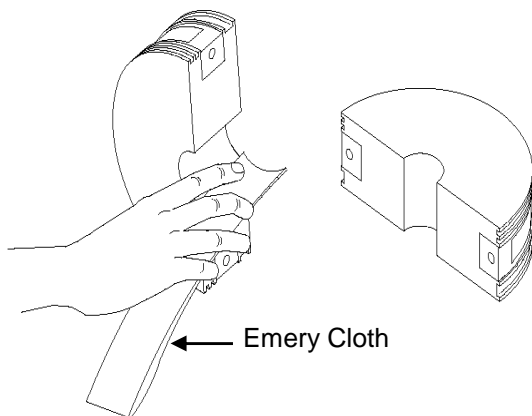

Figure 14
10.4 Use Emery Cloth to lightly scuff edges of drilled hole and remove any burrs on edges and corners only. See Fig. 14.